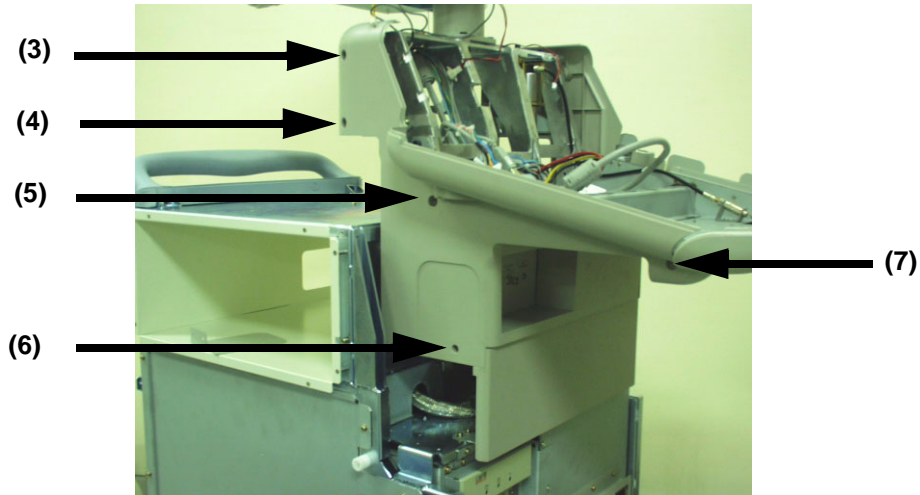

Figure 8-53 Unscrew 5 screws to remove OP L Cover
7.) Unscrew five screws (3-7) and remove OP Side L Cover. Refer to Figure 8-53.